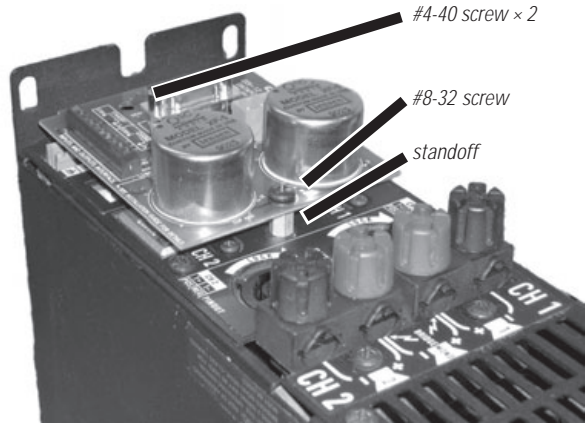

Figure 6. The DDI-12 card mounted to an amplifier.
3. Thread one of the standoffs into the threaded hole to the right of the XLR inputs (PowerLight 2A models) or the DIP switches (CX, DCA, PowerLight 2, or ISA models). See Figure 6.